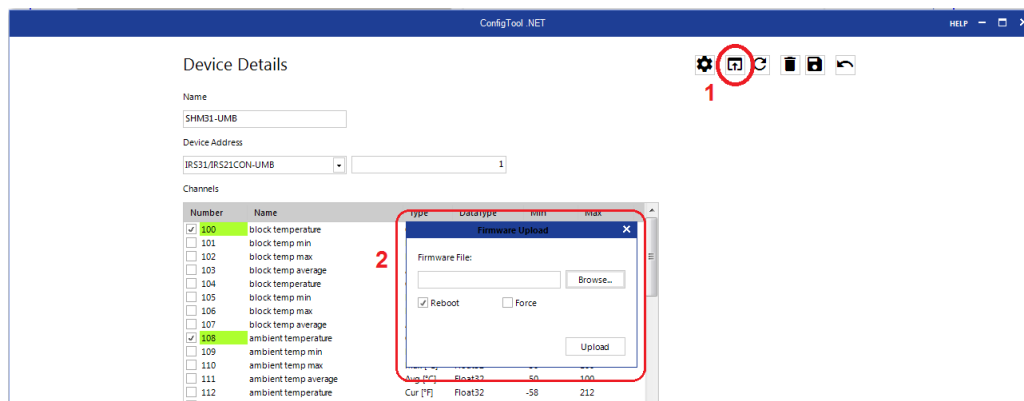

Figure 33: Performing a firmware update
4. Click on the update icon and select the downloaded firmware file in the 'Firmware Update' window. Then click on 'Update' (Figure 33)